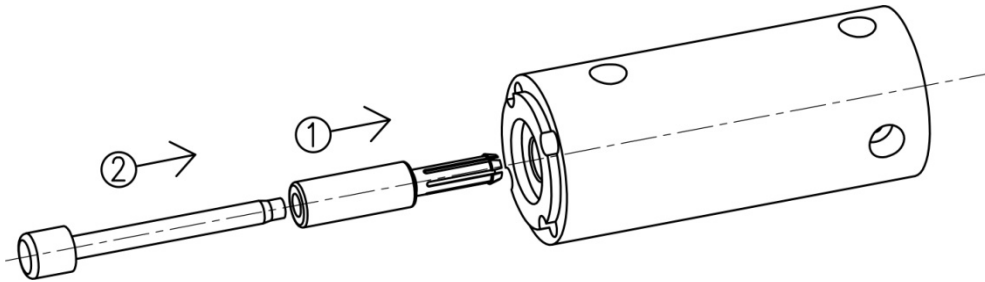
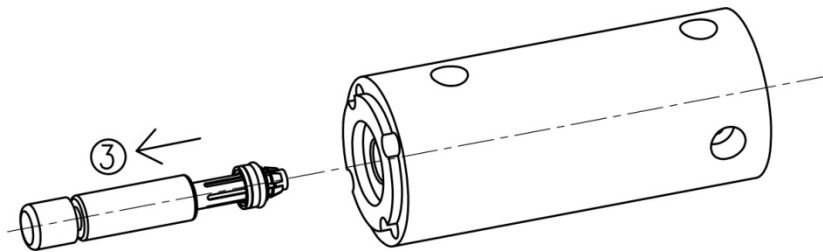

Figure 4
Figure 5
Disassembly of the seal part is indicated in the Figure 4 and Figure 5.
end ; At last, pull the whole assembly③ out as shown in Figure 5.